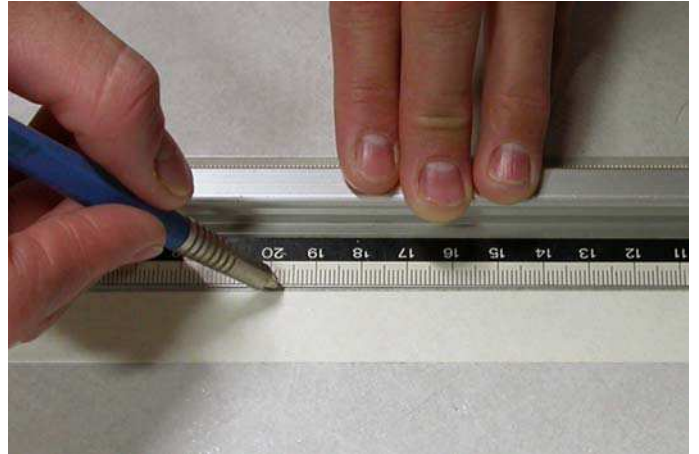

Fig.64: Draw a line in the middle of the tape.
- using a pencil, draw a line in order to divide the tape in half lengthwise (see figure 64);